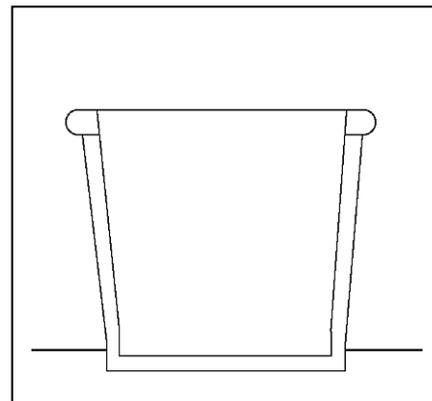

Fig. 3
3. Choose a container for your fountain kit. Fig. 3